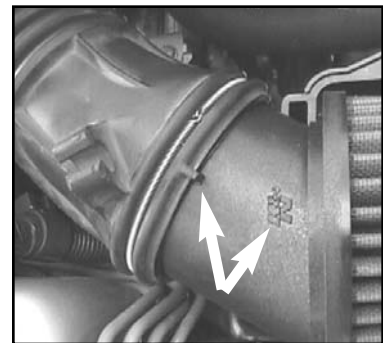

Fig. 3
5. Insert the flange of the K&N air filter into the air intake tube making sure to line up the tab on the air intake tube with the K&N logo as show in Fig 3. The flange on the K&N air filter only needs to be inserted into the air intake tube about 1-1/8 inch (29mm).